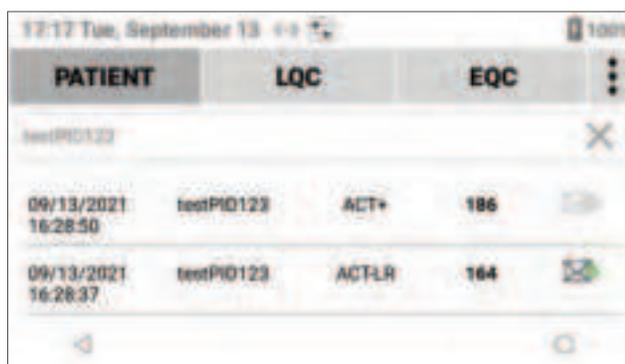

Figure 75: Filter by PID or OID
- **PID** or **OID** – To filter by a specific PID or OID, select **PID** (PID) or **OID** (OID), select **Scan** to scan a compatible PID/OID barcode or manually enter the PID/OID (touch the text field to display virtual keyboard), and select **Find**. The selection criteria will be displayed on the screen (Figure 75). To exit, select **X** or select other tab. This search is available for **Patient** (both PID and OID) and **LQC** (only OID) test results.